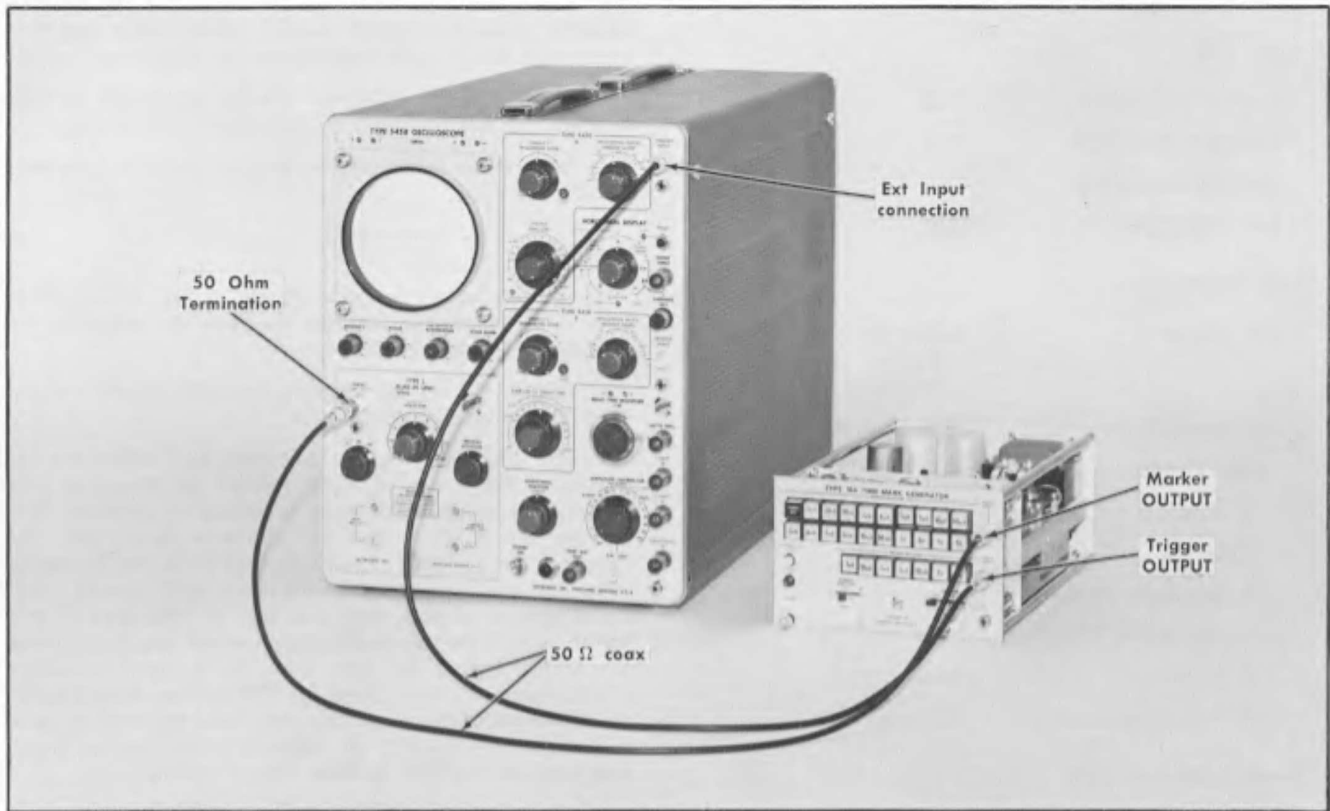

Fig. 6-11. Test equipment setup for checking time-marker accuracy and amplitude. Step 6 and step 7.
- a. Test equipment setup is shown in Fig. 6-11.